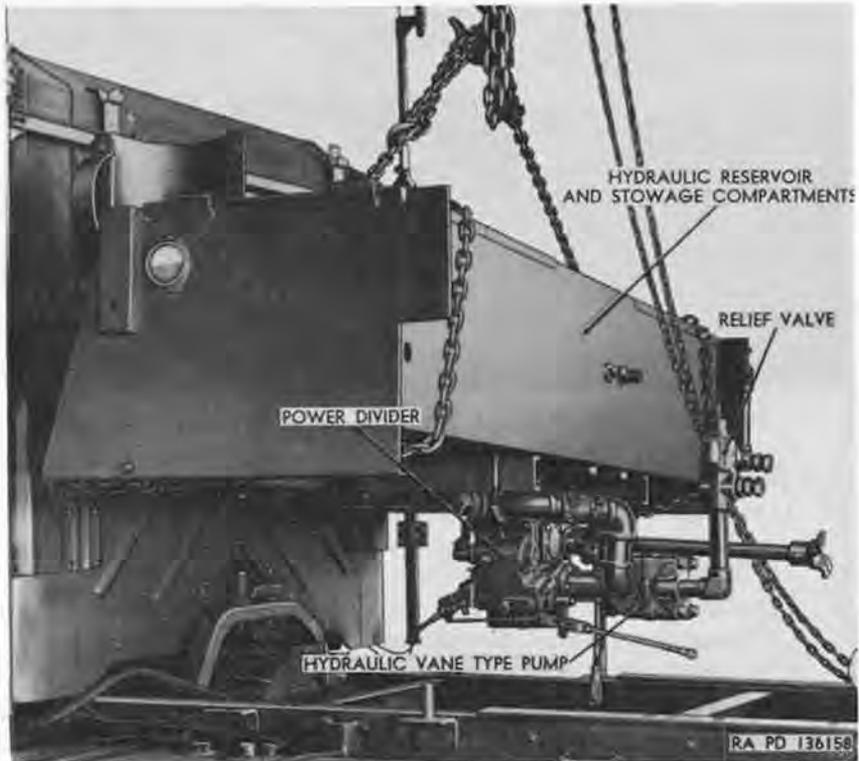

Figure 6. Lifting of hydraulic reservoir and stowage compartments with power divider, hydraulic vane-type pump, and relief valve attached, from the truck.
(fig. 6)
*a.* Position chain sling on hydraulic reservoir assembly as shown in figure 6. Lift the assembly into position on the vehicle, making certain spacers are aligned with bolts and brackets. Install four  $\frac{5}{8}$ -18NF-2 safety nuts, located two on each side at frame side rail, and secure the assembly to the vehicle.